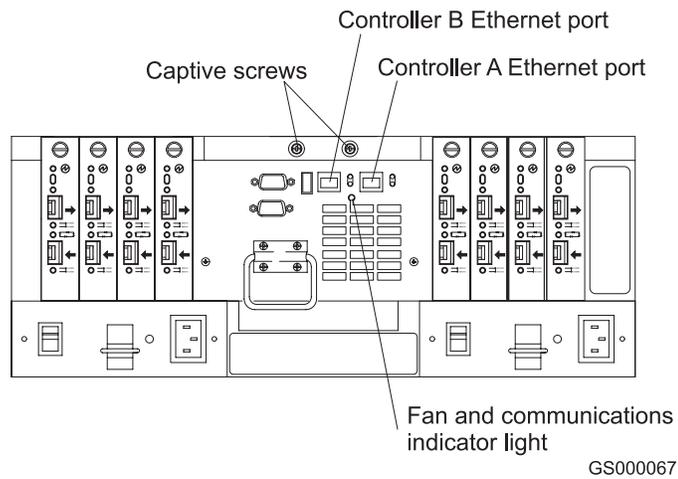

Figure 42. Fan and communications module ports and indicator light
5. Check the fan and communications indicator light. See Figure 42 on page 55 for the location of the fan and communications indicator light.